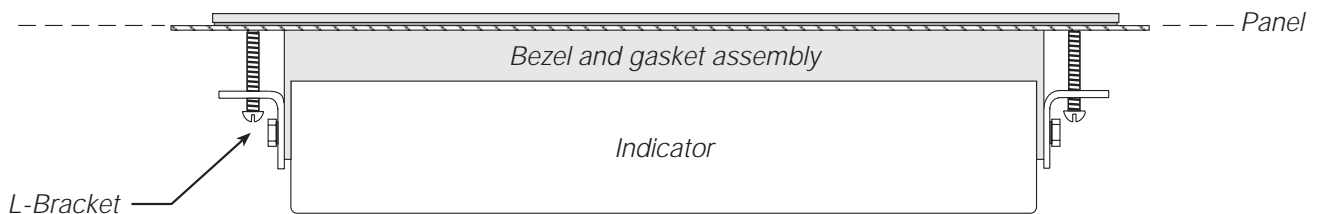

Figure 2. Panel Mounted IQ plus 355 (Top View)
6. Start the four 1/4-20NC x 1 3/4" round-head machine screws into the panel mount brackets. Place a few drops of a removable-strength thread adhesive (such as Loctite®) on the screw threads to prevent loosening in high-vibration environments. Tighten screws until the indicator is held securely against the panel. Figure 2 shows a top view of a completed panel mount installation.